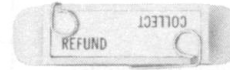

Fig. 1 — 146B Bias Margin Gauge
- (2) Slip 146B bias margin gauge (Fig. 1) over left pole piece extension arm from left side of coin relay (Fig. 2).